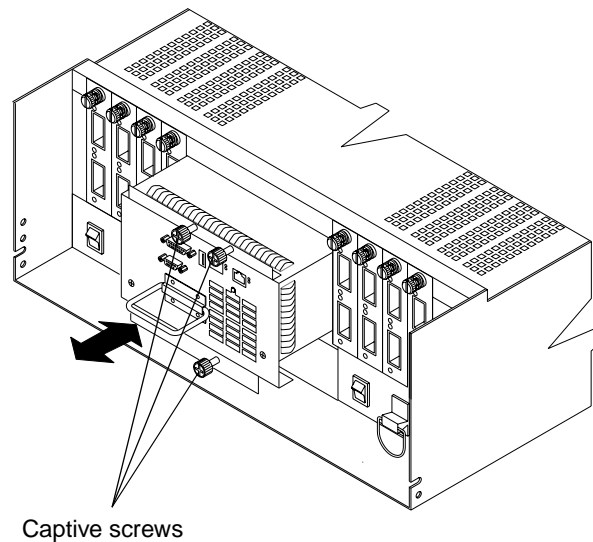

Figure 25. Removing and installing a fan and communications module
The fan and communications module is a single, removable unit containing two cooling fans, two serial ports, and two Ethernet ports. This module plugs into a slot at the center back of the controller unit, just above the power supplies (see Figure 25 on page 44). It has a locking lever and a pull handle for securing and removing the fan and communications module. The module contains dual fans that provide a redundant cooling system to both power supplies. If one fan within the module fails, the other continues to operate. A single fan provides sufficient air circulation to prevent the power supplies from overheating until you can replace the entire fan and communications module.
- 4 Using Figure 25 as a guide, remove the failed fan and communications CRU from the controller unit.